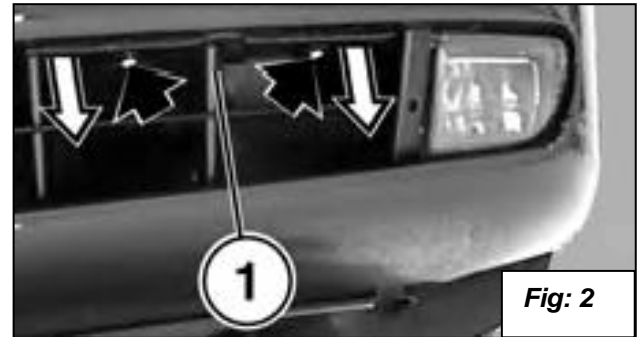

Fig: 2
3. See Figure 2: Both of the small black plastic grills must be removed. Remove the two expanding rivets that hold in the small plastic grill (1). First pull out the center section of the rivet almost all the way, and then the outer section can be removed. The grill is removed by pulling in the direction of the white arrows.